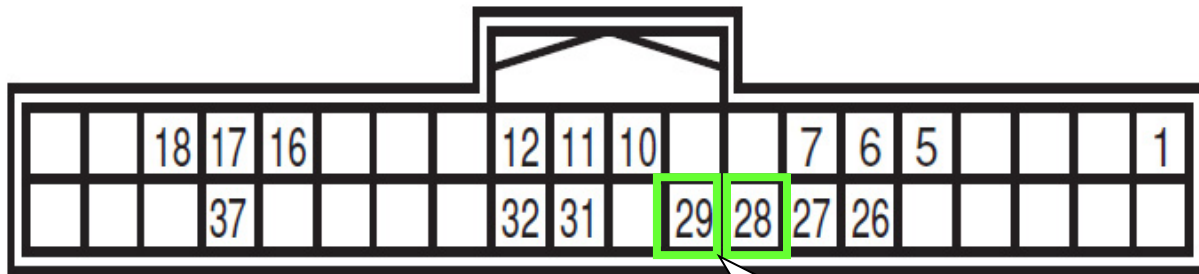

Figure 20 Terminals 29 and 28
- 2 black ground wires; terminals 29 and 28 locations shown in Figure 20, from harness side.
- Refer to Figure 20 on previous page for harness connector cavity locations.